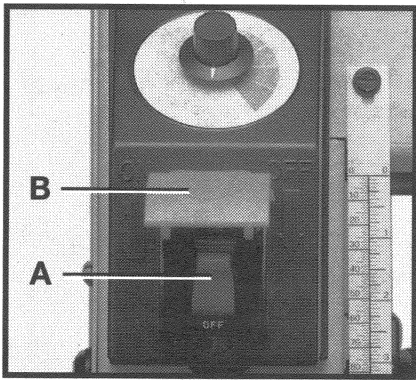

Fig. 12
1. The drum motor on/off switch (A) Fig. 12 is located underneath the switch shield (B). To turn the drum "ON", move switch (A) TO THE "ON" (up) position.